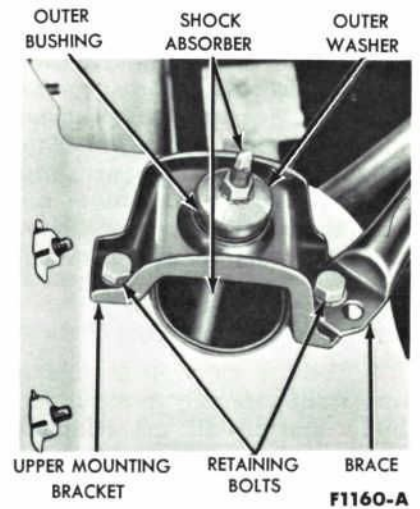

FIG. 79—Front Shock Absorber Upper Mounting
4. Position the shock absorber and upper mounting bracket assembly in the car (Fig. 79). The
5. Install the shock absorber lower retaining nuts (Fig. 75). Position the bracket-to-dash panel brace to the wide leg of the shock absorber mounting bracket, then install the upper mounting bracket retaining bolts and washers (Fig. 79). Install the suspension bumper and bracket assembly, and secure with retaining bolts and washers. Torque the bolts to specifications. Install the wheel and tire assembly to the hub, remove the safety stands, and lower the car. Check and, if necessary, adjust caster, camber, and toe-in.
2. Open the hood, then remove the two shock absorber upper mounting bracket retaining bolts. Move the mounting bracket-to-dash panel brace to one side, then remove the mounting bracket and shock absorber as an assembly (Fig. 79). Remove the shock absorber upper retaining nut, bushing, and washer, then separate